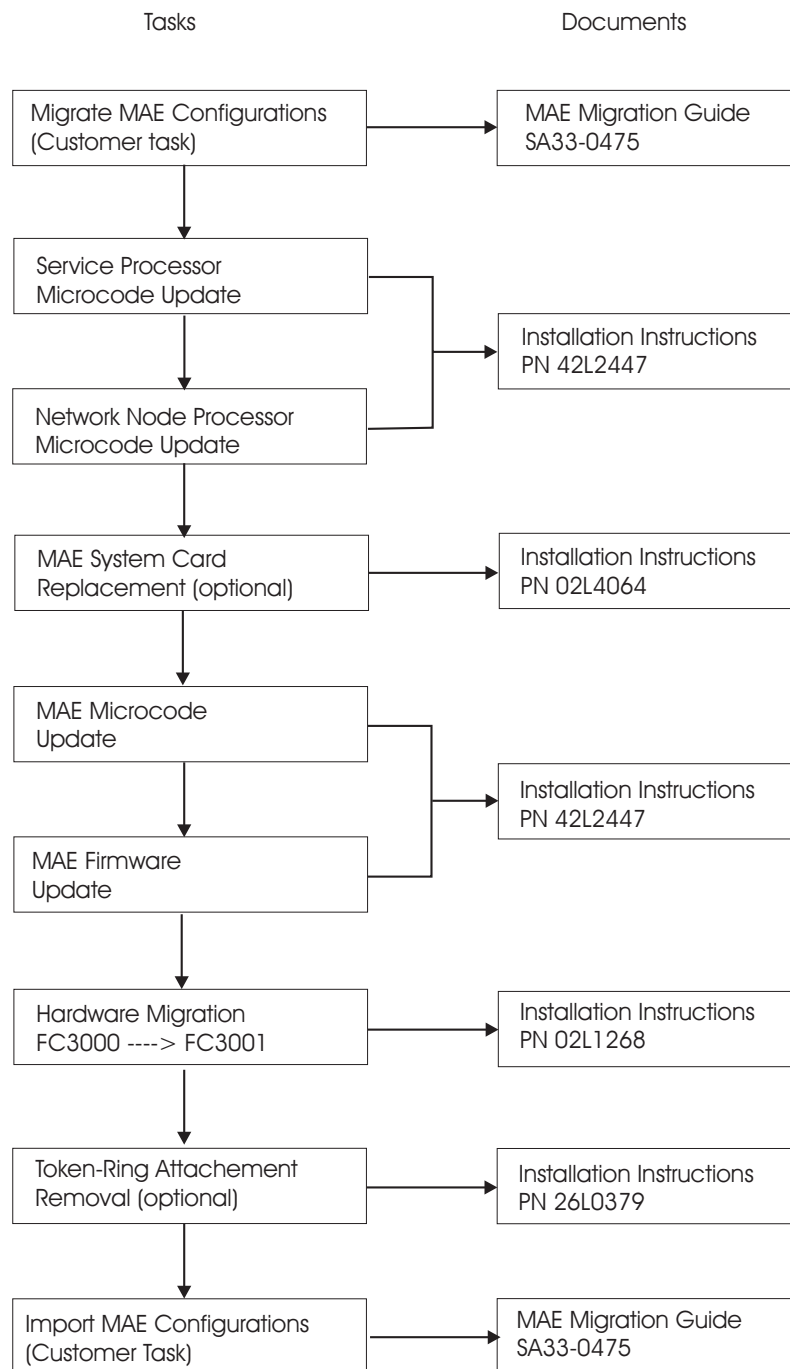

Figure 1. MAE FC 3000 to FC 3001 Migration Scenario
- Familiarize yourself with the purpose and details of the installation instruction (refer to Figure 1 on page 6).
To have an overview of all the tasks and documentation to be used during the migration, refer to Figure 1 on page 6.